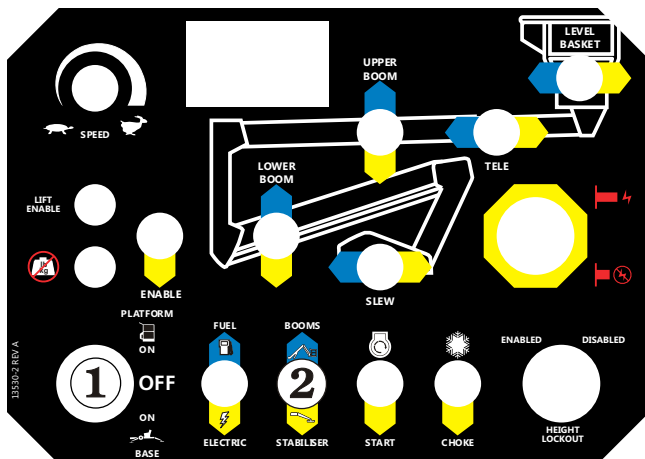

Figure 8.8
- Insert the key ① into the **Platform / Ground Selector Switch** at the ground control box and select platform (see Figure 8.8).